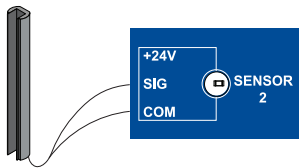

Figure 32. Sensor Connection
4. Install the wires into Sensor #1 or Sensor #2 on the SmartCNX controller (Figure 32).